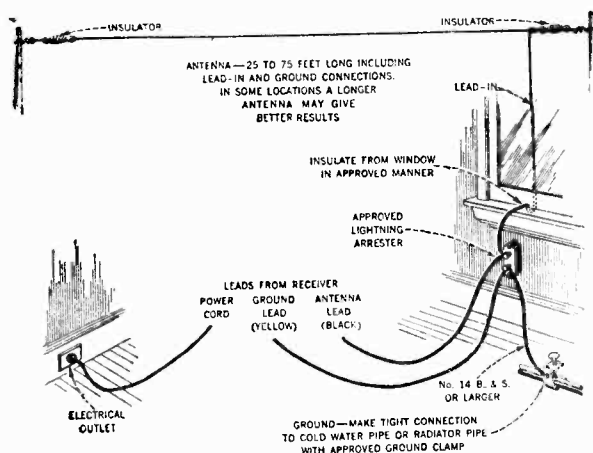

Figure 1
**External Connections**—Figure 1 shows the external connections and recommended antenna system. It is essential that a good ground connection be provided. Make connections to the antenna and ground as illustrated. Then connect the power cord to an electrical outlet supplying alternating current at the voltage and frequency (cycles) for which the instrument is rated (see rating label on rear of receiver).